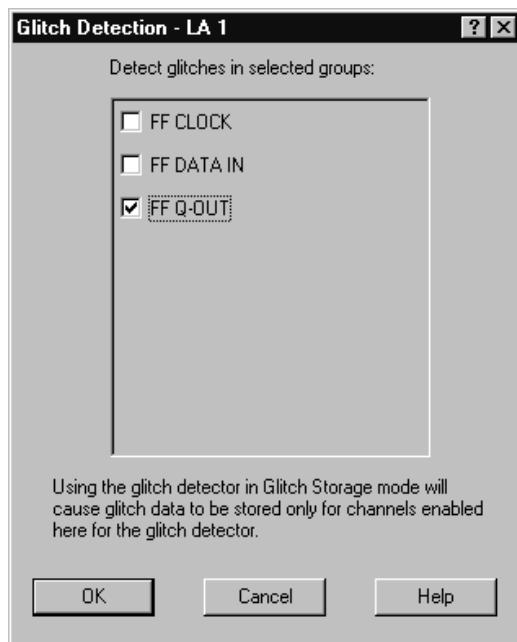

Figure A-2: Glitch Detection dialog box
6. Leave the check mark on the FF Q-OUT channel group. The Glitch Detection dialog box should look similar to Figure A-2.